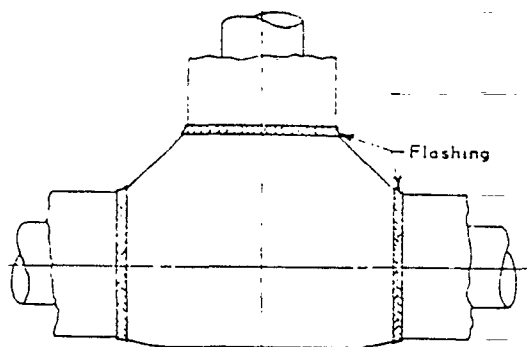

FIGURE 11
9.1 Flashing Compound, Code 807, shall be applied at all possible sources of moisture penetration such as the intersections of insulation at piers, nozzles, building walls, valve bonnets, supports, hangers, and other parts protruding through the surface of the finish. Prior to application, wipe down surfaces of talc-coated felts or other dusty surfaces with a damp cloth and allow to dry to gain maximum adhesion. The Flashing Compound, Code 807, shall be applied to provide a watershed in a 1/4-inch coating extending over all intersecting surfaces without feathering of edges. See Figures 11, 12, 13, and 14.